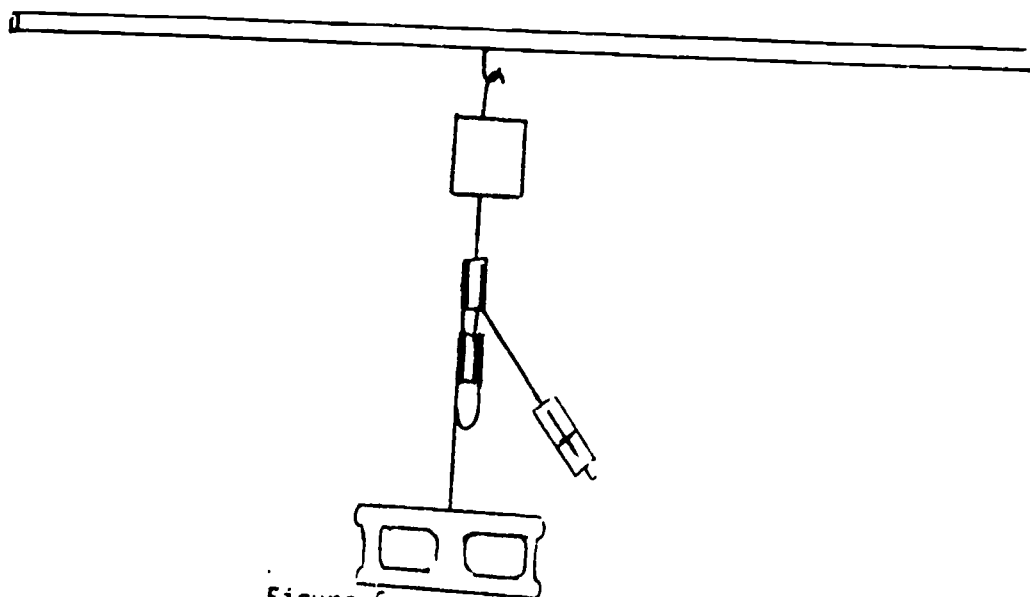

Figure 6
1. Set up the pulley to lift the concrete block. Attach one end of the heavy duty cord to the block and the other end to the spring scale. (Figure 6)